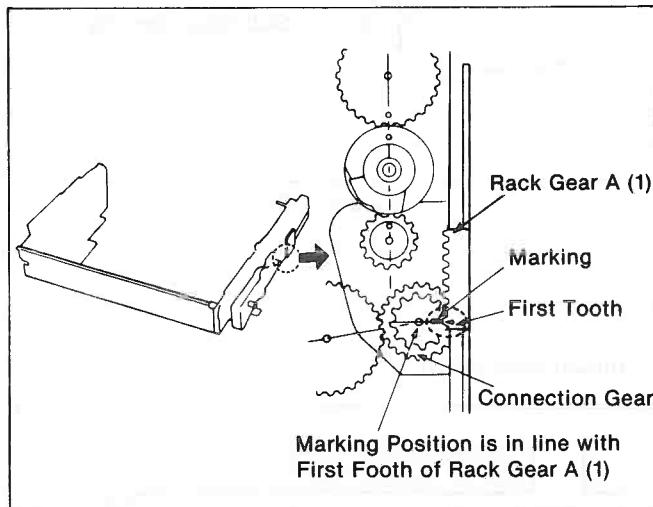

Figure M65
3. Put the Sub Wiper Arm (R) in its full down position (Sub Wiper Arm should rest on plastic protrusion on the bottom of the right side plat).
4. Install the cassette compartment (without cassette holder) to chassis so that the rectangular marking (or slot) on the connection gear should be line up with first tooth of the Rack Gear as shown in Figure M65 and M66.